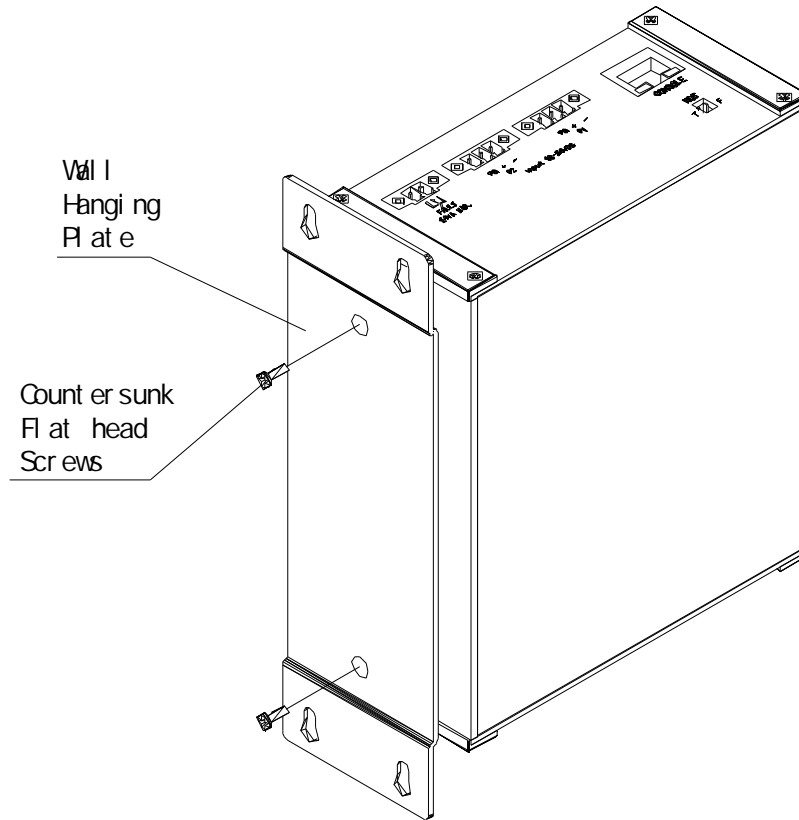

Figure 4-4 Mounting wall-mounting plate
- 2 . Take out the wall-mounting plate and the screws (cross recessed countersunk head screws M3×6) for mounting wall-mounting plate from the packing box. Use a cross head screwdriver to mount the wall-mounting plate in the position originally for mounting DIN rail connector socket. The mounting direction of the wall-mounting plate is shown in Figure 4-4.